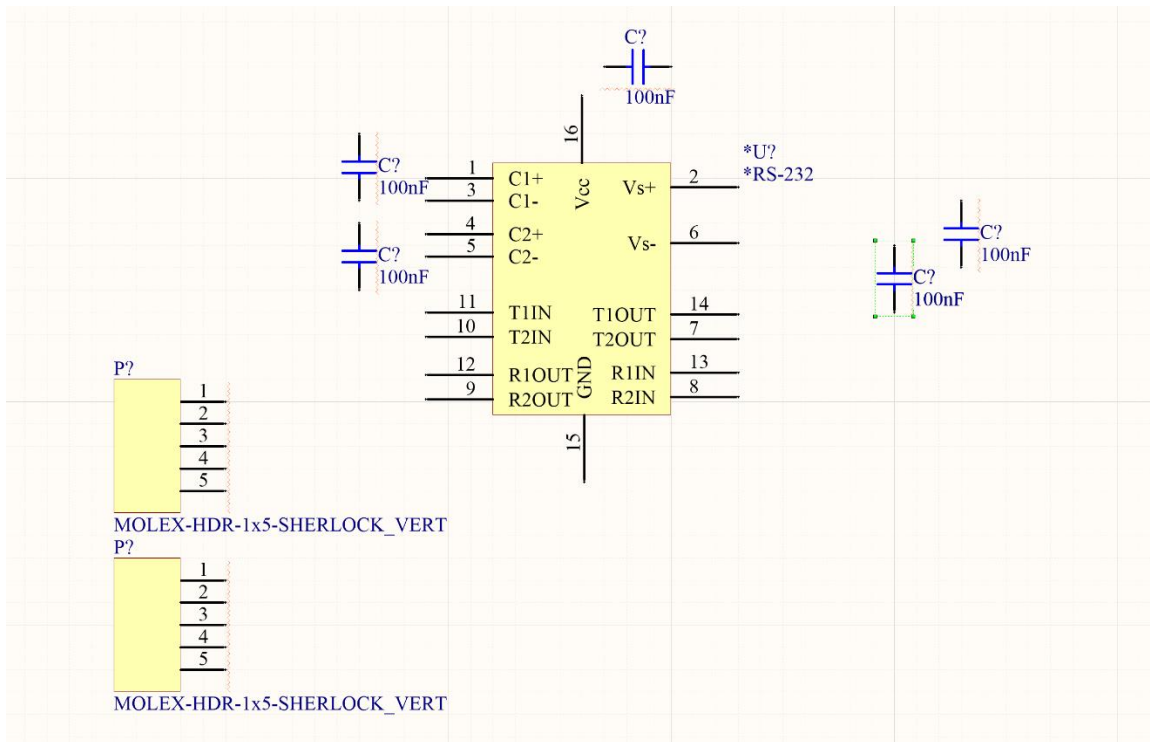

Figure 9: Initial Schematic Layout
18. Organize your components as specified in Figure 9. (hint: you can rotate a component by selecting it and pressing the space key)